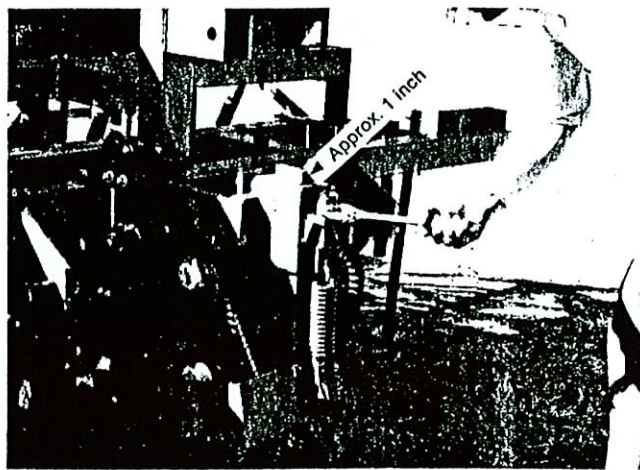

Figure B-2
Spring loaded coulter drive. The clamp should be mounted 2" from the right hand side and in front of the 2 x 4 bracket welded in front of the frame. The 1 x 3 mounting shank should be initially set about 1" above the clamp as shown in Figure B-2. Spring tension should initially be set such that nine (9) threads show above the adjusting nut before adding the jam nut. See Figure B-2.
It may be necessary to adjust the spring loaded drive coulters up or down so that the drive coulters remain in firm contact with the ground to drive the unit but is still afforded enough spring loaded travel to clear obstructions in the field. See Figure B-2.